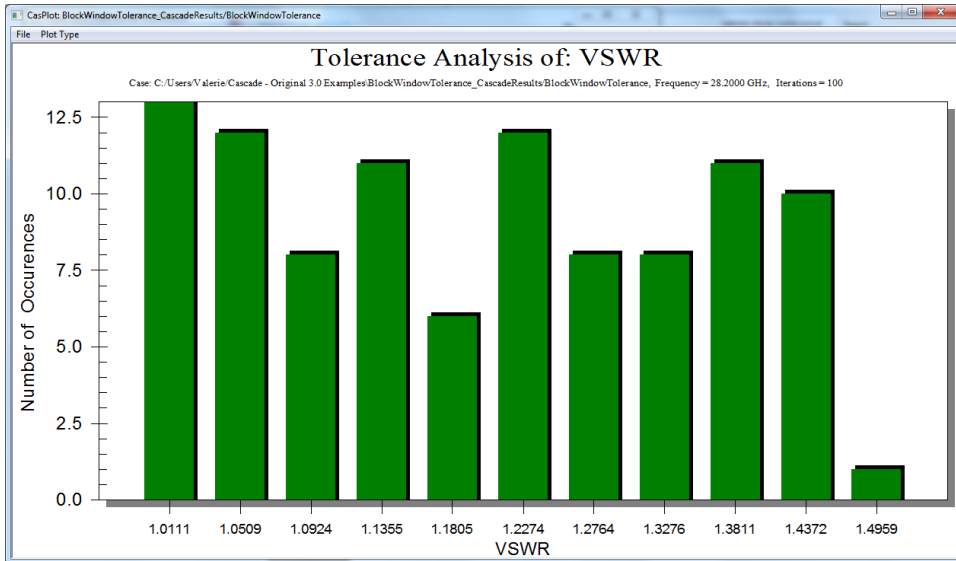

FIGURE 36. Performance histogram for +/- 0.002 inch tolerance for ceramic thickness
9. When execution is completed, plot the *VSWR* histogram by using the *View* pulldown menu and selecting *Tolerance Histogram* and then *VSWR*. The plot should be similar to that shown in Figure 36. Because of the random nature of the variation of parameters, each simulation will be different.
Typically, VSWR values greater than 1.2:1 are considered unacceptable. The histogram in Figure 36 indicates that almost half of the windows manufactured with this tolerance will exceed a VSWR of 1.2.